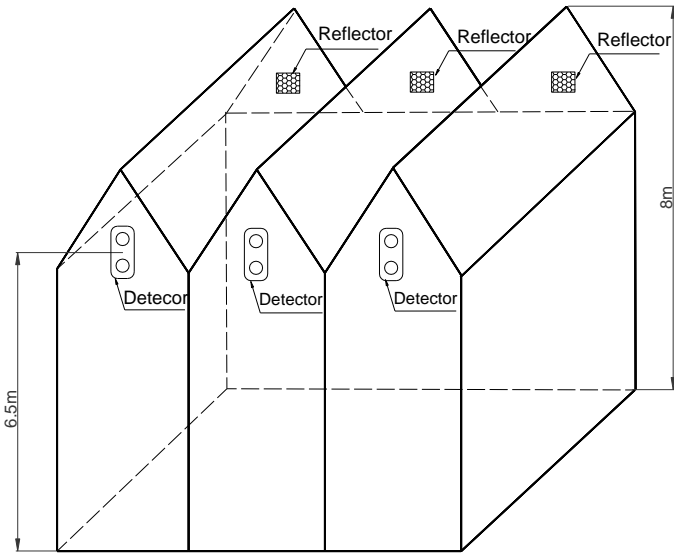

Fig.7
d) As the space height with gable structure is about 8m, the detector and reflector/s should be mounted on the walls which are opposite, having about 1.5m from the gabled girder. Refer to Fig. 7.